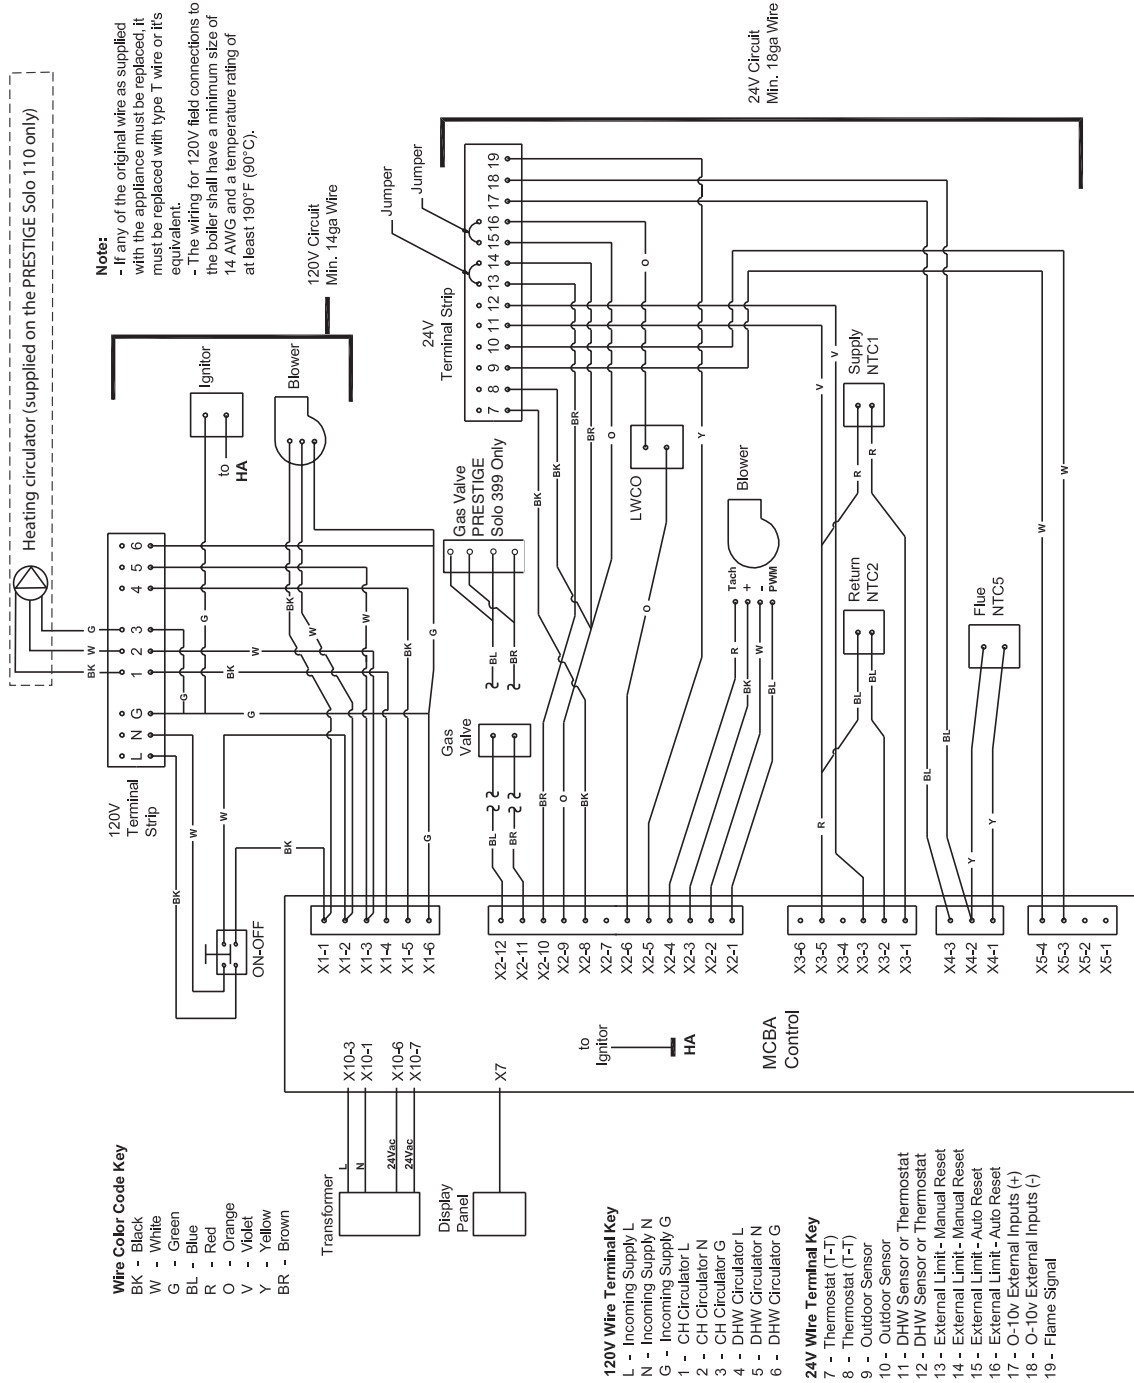

Fig. 20: PRESTIGE Solo Boiler Factory Wiring
1. Connect a 120 VAC/15A service to the 120V terminal strip on the wiring panel below the PRESTIGE Solo control module, as shown in Fig. 20, page 32.
1. Connect the DHW thermostat (aquastat) to the 24V terminal strip on the wiring panel located below the PRESTIGE Solo control module as shown in Fig. 20, page 32.
1. Connect room thermostat or the end switch (isolated contact only) of a relay control panel to the 24V terminal strip on the wiring panel below the PRESTIGE Solo control module, as shown in Fig. 20, page 32.
1. The CH primary circulator is pre-wire to the PRESTIGE Solo 120 V terminals 1,2 and 3 as shown in Fig. 20, page 32.
2. Connect the DHW circulator to the PRESTIGE Solo 120 V terminals 4, 5 and 6 as shown in Fig. 20, page 32.
The PRESTIGE Solo provides 24V terminal connections for additional limit controls as shown in Fig. 20, page 32. These limit terminal connections will provide a "hard" lockout requiring a manual reset of the PRESTIGE Solo control, or a "soft" lockout in which the PRESTIGE Solo will automatically reset.